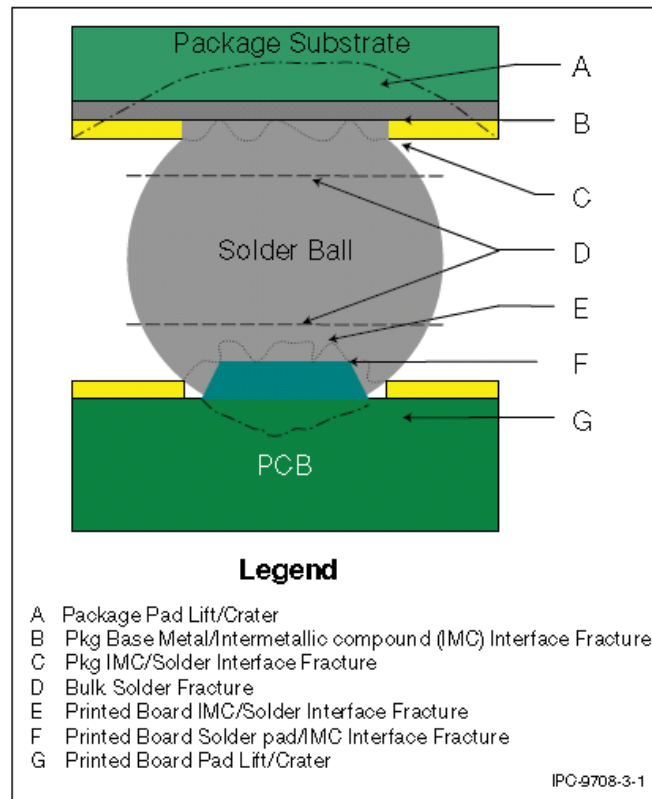
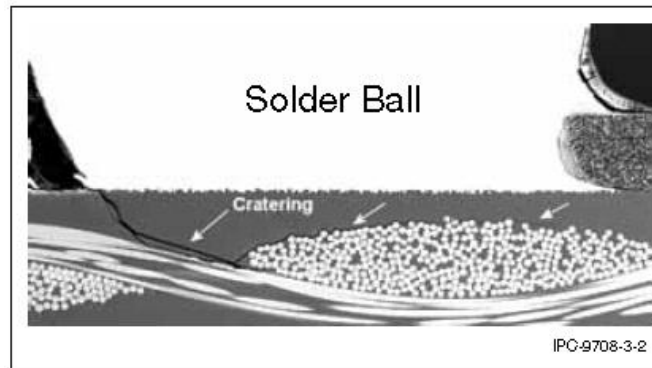

Figure 1. Example failure mode categories of BGA PCB assembly
Figure 2. Typical pad cratering failure
Pad cratering is the crack of PCB laminate underneath a copper pad of a surface mount component, most commonly for BGA packages^[3]. Category A and G of failure as shown in figure 1 is defined as pad cratering. And typical pad cratering failure is as shown in figure 2. It's believed that pad cratering is due to strain and strain rate applied on SMT component during series of mechanical test, such as bend, shock, drop, ICT and so on. But thermal cycling or thermal shock may also lead to pad cratering as considering the CTE mismatch of the materials. Also pad cratering may not cause immediate failure and will pass the routinely function test. But the propagation of the crack will finally lead to failure as in field usage by the end user. This makes the pad cratering to be more challenge than solder crack.
- Category A and G of failure as shown in figure 1 is defined as pad cratering.